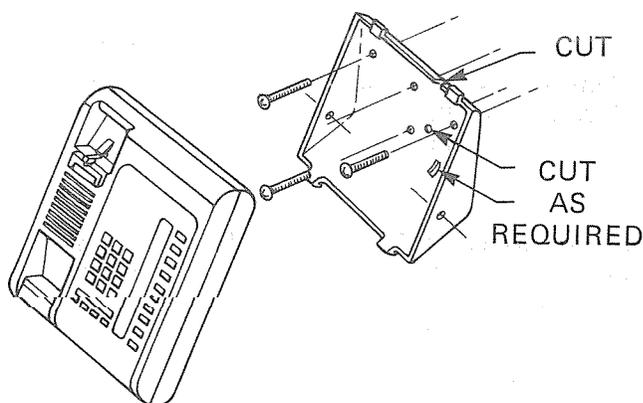

FIGURE 32—EKT WIRE ACCESS
09.15 Refer to Figure 32, choose which of the knockouts are appropriate for the tail cord route, and then cut them.